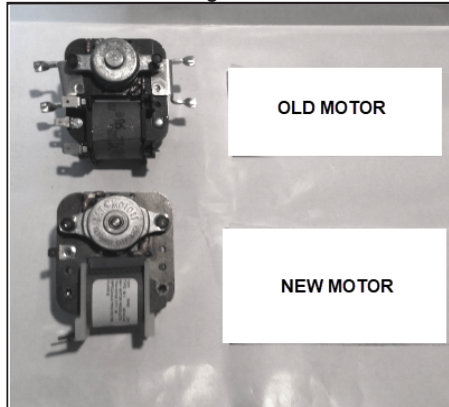

Figure 1
3. Place the new fan motor next to the old fan motor with the shaft down. See *Figure 1*.